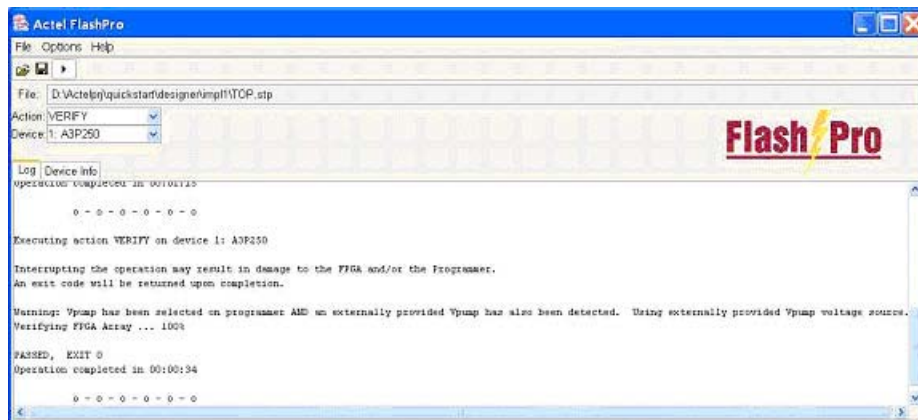

Figure 7-48 • Successful Verification
4. Click **Execute** to start the verification process. A successful verification will result in Exit 0, as shown in Figure 7-48. If the **STAPL** file is different from the file used for programming, Exit 11 will appear in the Log window.